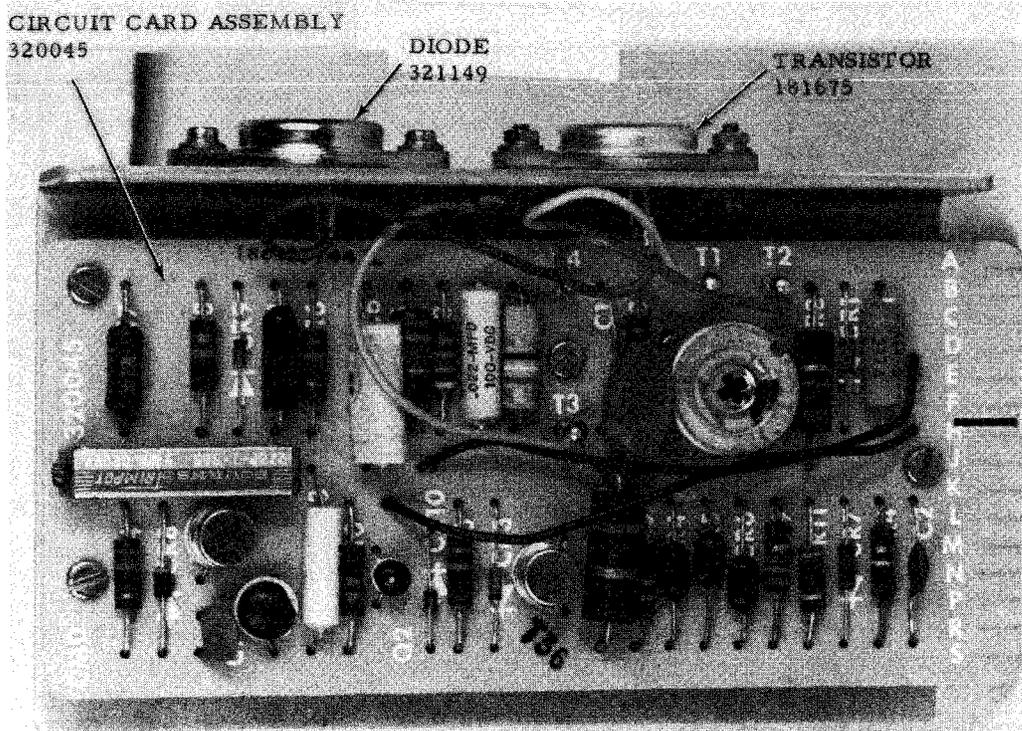

Figure 3-26. Clutch Magnet Driver TP321991 for Low-Level Operation
(1) The CMD (figure 3-26) is a solid state, direct coupled amplifier built as a plug-in circuit card assembly approximately 2-1/2 and 4-1/4 inches. It requires an external power source. All connections are made through a 15-pin circuit card connector. The CMD output drives a Model 28 type transmitting clutch upon receipt of a low-level input pulse. It is to be used with the proper associated equipment and is not for general use.
(2) CMDs are adaptable to various Model 28